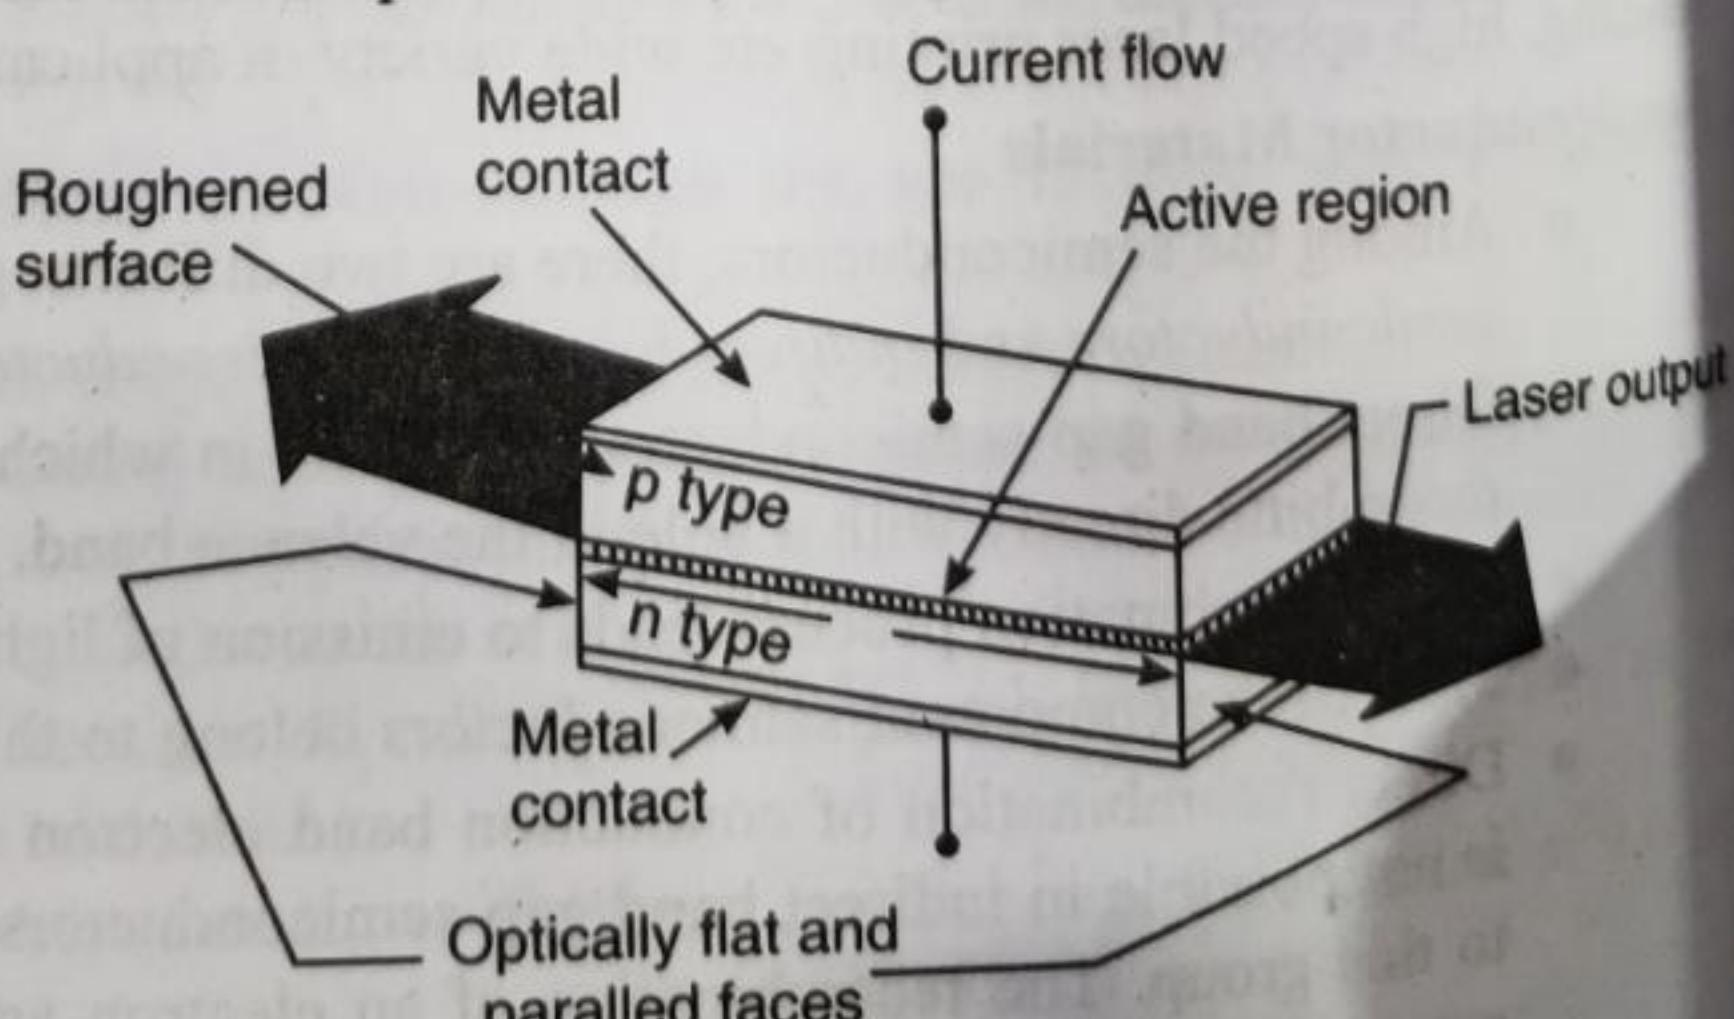

Fig. 24.24. Schematic of homojunction diode laser
**Construction:** Fig. 24.24 shows the schematic of a homojunction diode laser. Starting with a heavily doped n-type GaAs material, a p-region is formed on its top by diffusing zinc atoms into it. A heavily zinc doped layer constitutes the heavily doped p-region. The diode is extremely small in size. Typical diode chips are 500  $\mu\text{m}$  long and about 100  $\mu\text{m}$  wide and thick. The top and bottom faces are metallized and metal contacts are provided to pass current through the diode. The front and rear faces are polished parallel to each other and perpendicular to the plane of the junction. The polished faces constitute the Fabry-Perot resonator. In practice there is no necessity to polish the faces. A pair of parallel planes cleaved